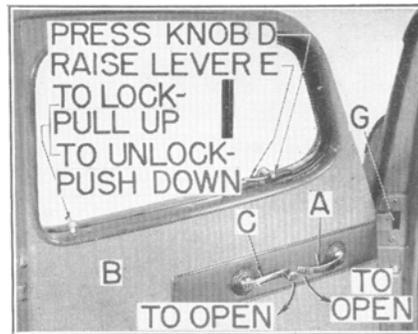

Figure 54
To lock the car from the inside, or outside without using the key, pull up on the small knob (B) projecting from the door window finish moulding. See Fig. 54. To unlock the lock from the inside push down on the knob.
The doors are opened from the inside by pushing down on handles (A), Figs. 54 & 55. These can be operated only when the locking knob (B) is pushed down.
The door windows are operated by turning handles (C), Figs. 54 & 55.
Ventilator wings—friction type—are unlocked by pressing knob (D), Fig. 54, and raising handle (E).
chassis lubricant on the spring contact surface (G) of the concealed hinge, see Figs. 54 and 55.